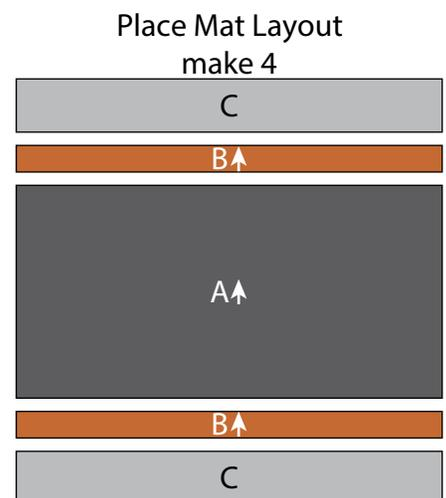

Fig. 19
15. Sew 1 ½" x 16 ½" Fabric B strip to the top and to the bottom of (1) 8 ½" x 16 ½" Fabric A strip lengthwise. Sew (1) 2 ½" x 16 ½" Fabric C strip to the top and to the bottom of the newly sewn strip lengthwise to make (1) Place Mat top (Fig. 19). Repeat to make (4) Place Mat tops total.